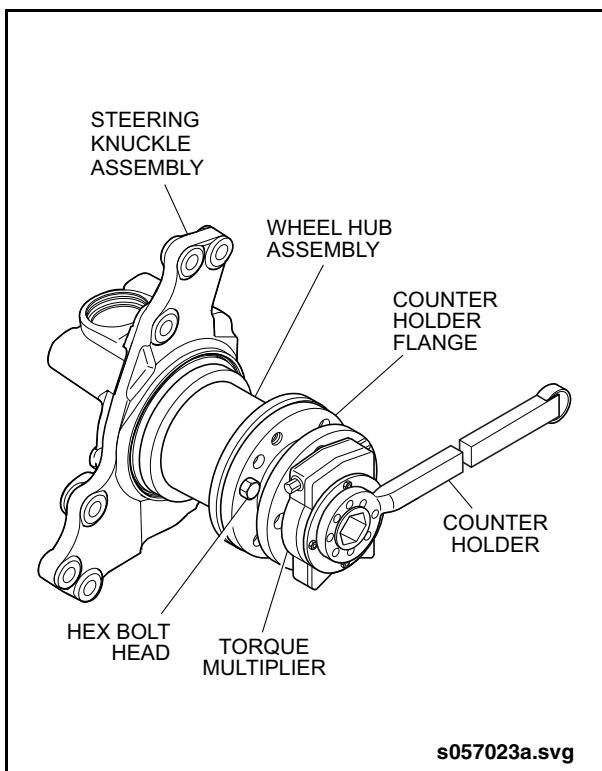

Fig. 1-14: Wheel Hub Nut Removal
5. Install counter holder flange, torque multiplier, counter holder and torque reaction arm (Items 31, 32, 33, & 34 from special tools list) on end of hub and over slotted nut socket. See "Fig. 1-14: Wheel Hub Nut Removal" on page 15.